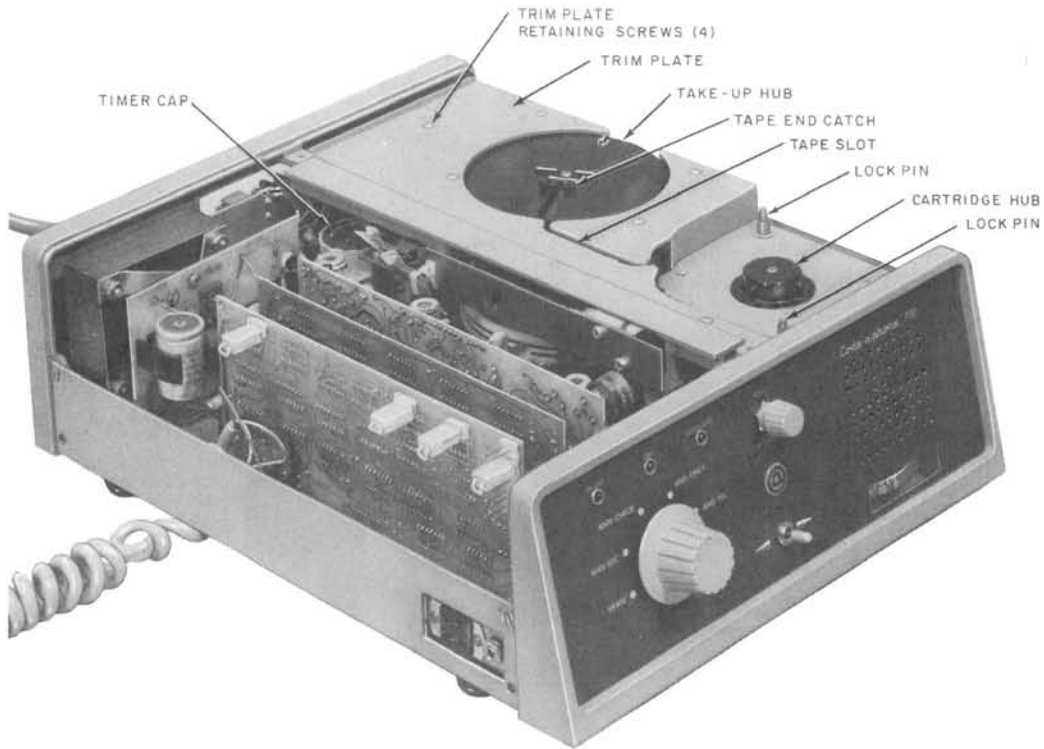
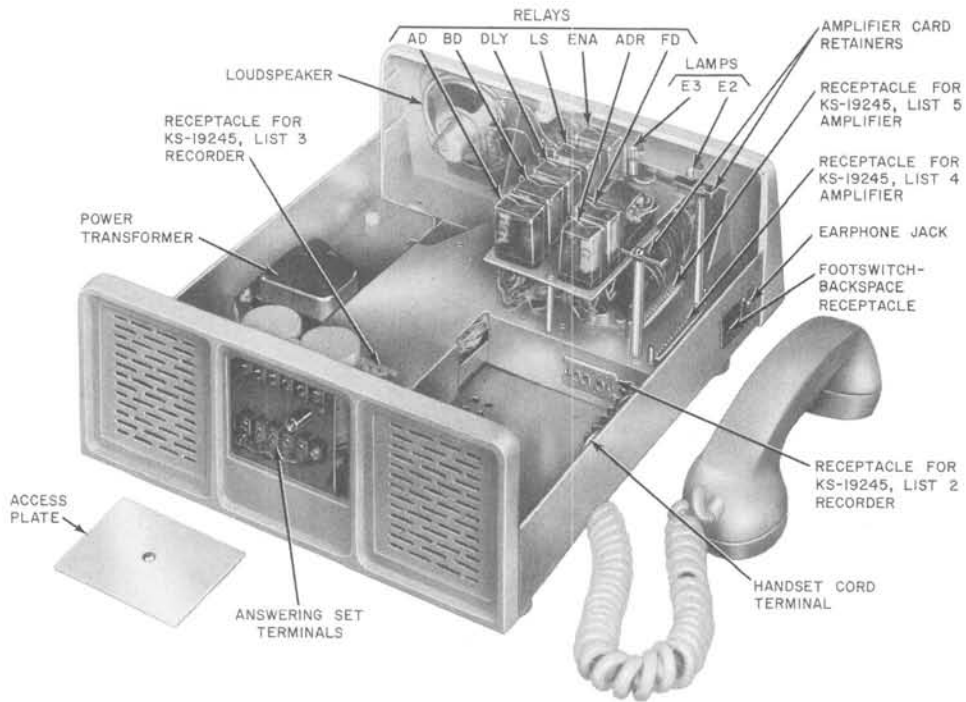

Fig. 24—KS-19245, List 1 (MD) Telephone Answering Set—Cover and Components Removed
Fig. 25—KS-19245, List 13 (MD) and List 24 Telephone Answering Set—Cover Removed
- (1) Set function selector to OFF.
- (2) Place cartridge (Fig. 9) over cartridge lock pins and hub (Fig. 25) and press down into place.
- (3) Slide tape end (Fig. 9) through tape slot (Fig. 25) and into slot of take-up reel and lock into place. Make certain, by listening for a snap, that both the left and right sides of the tape end are locked in place.
##### 4.14 Cartridge Removal (Fig. 25).
- (2) List 1 set only.
- (a) Loosen amplifier board retainers (2) (Fig. 24).
- (3) Lists 13 and 24 sets only.
- (a) Remove the four trimplate retaining screws (Fig. 25).